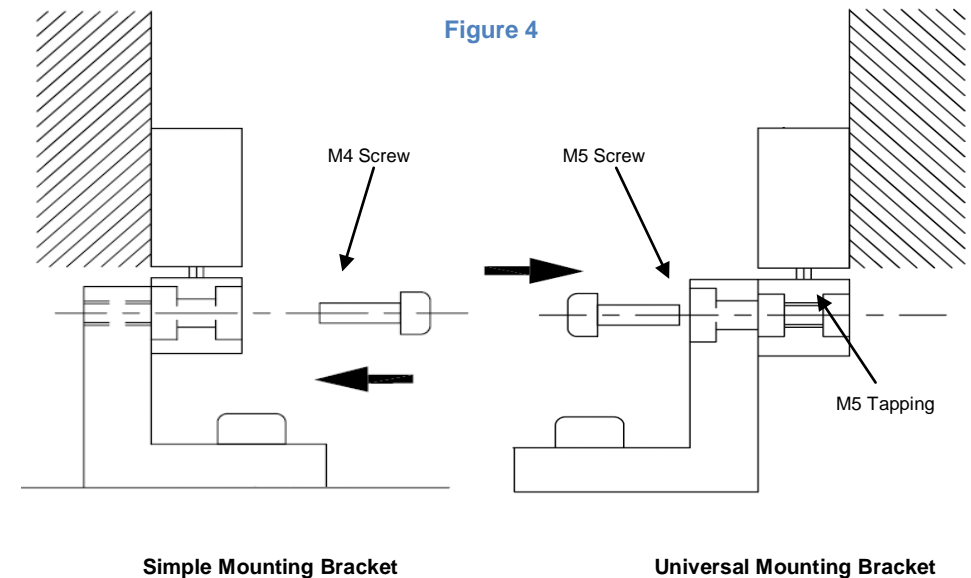

Figure 4
- The reader-head mounting bracket should be installed as per Figure 4 such that correct gap is maintained between the reader head and the scale.
- Reader head has M5 tapping available such that M5 screws can be directly fitted. Optionally M4 screws can be used as through hole. Refer Figure 4.